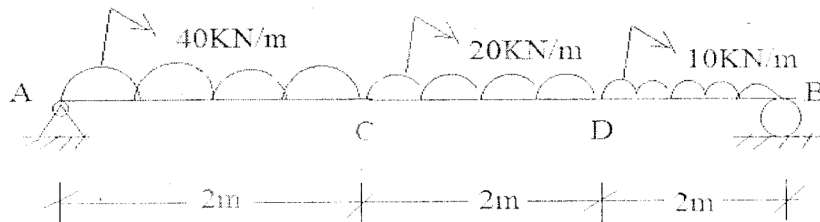

Fig.2
5. Draw the SFD and BMD for the beam as shown in Fig.2